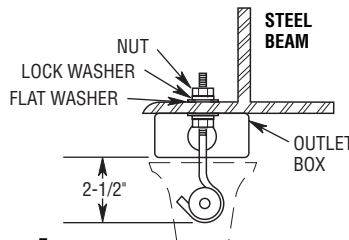

Figure 5
**On Steel Beam** - Locate and drill a 13/32" diameter hole in the beam. (See Figure 5.) Use a flat washer, lock washer and nut on both sides of the beam. Position the J-hook so that the hook extends 2-1/2" out of outlet box. Securely tighten both nuts. (See Figure 5.)